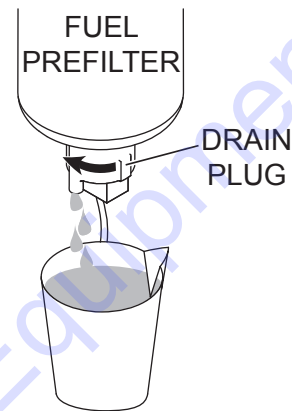

Figure 40. Fuel Water Separator Filter
1. Place a suitable container under the drain socket of the drain plug (Figure 40).